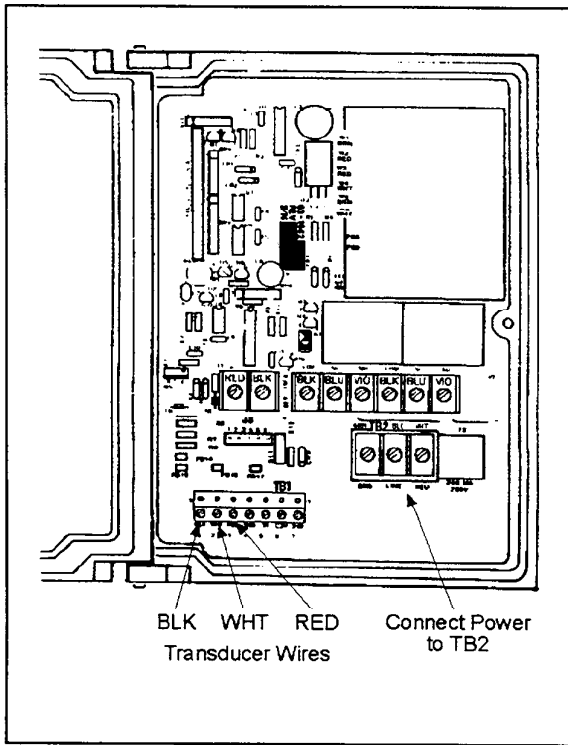
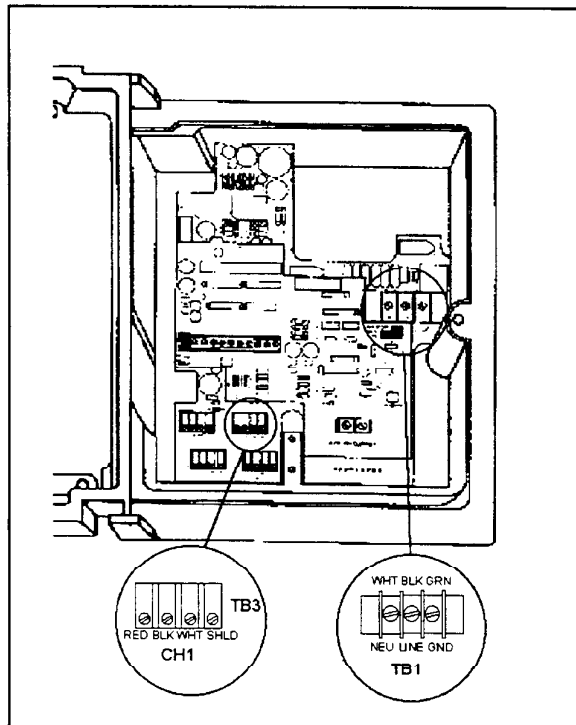

Figure 2-15. Wiring the 1000/1020 Weight
Figure 2-16. Wiring the 1200 Series Batch Controller.
1. Connect the Load Disc II transducer wires to TB1 as shown in Figure 2-15 if you are using a 1000/1020 Weight Indicator or TB3 as shown in Figure 2-16 if you are using a 1200 Series Batch Controller.